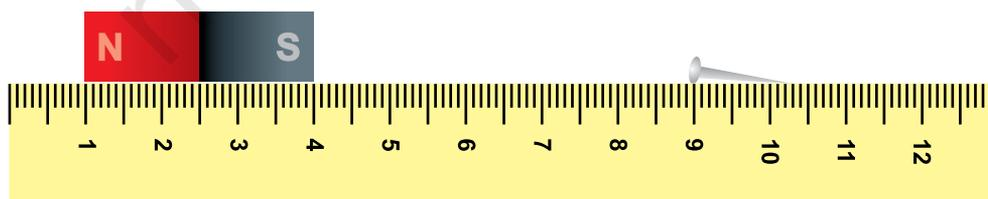

Figure 43.1
4. Place a pin at a distance of about 5 cm from the magnet as shown in Fig. 43.1. Observe what happens. Is the magnet able to attract the pin?